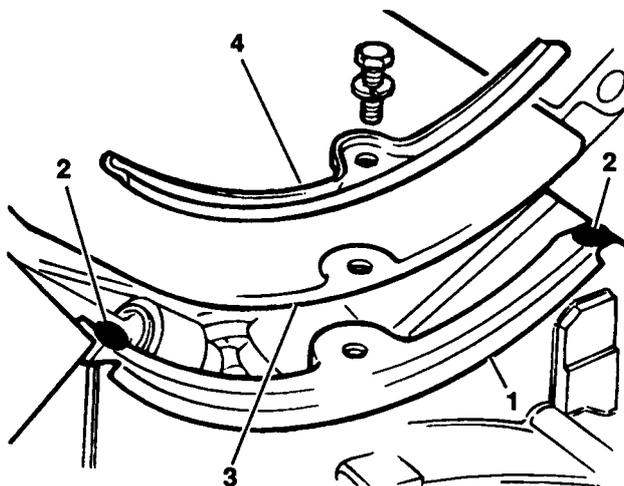

Fig.6 Fitting manifold gasket
2. Fit a new manifold gasket end seal (fig.6, 1) at each end of the cylinder head, ensuring that the seal ends locate correctly in the 'notches'.
3. Apply a globule of Loctite sealant (fig.6, 2) on top of the seals directly above where they fit into the 'notches'.
4. Fit the inlet manifold gasket (fig.6, 3), either way round. Fit the gasket clamps (fig.6, 4), and tighten the clamp bolts finger tight.